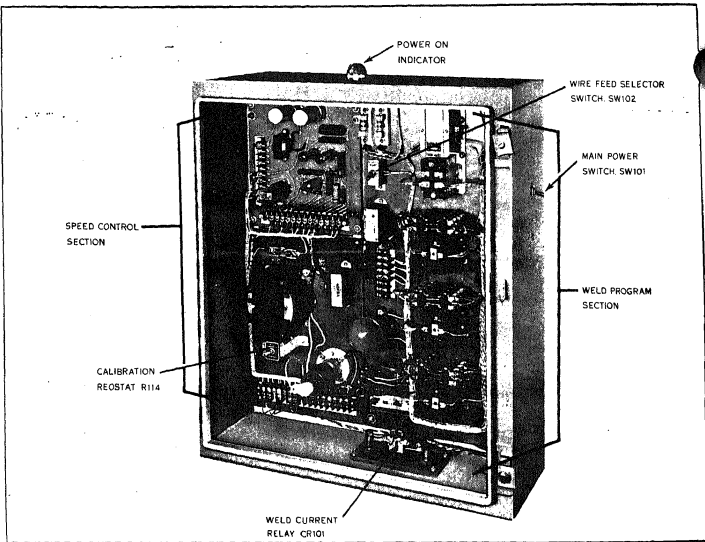

Fig. 4 Model AHC-B Control (Inside View)
Be sure that the main power switch (Fig. 4) connects Control in accordance with interconnection diagram (Fig. 5) as follows:
- Turn main power switch (Fig. 4) OFF.
- Turn main power switch (SW101) (Fig. 4) OFF.
To shut down Control, turn power switch (Fig. 4) OFF.